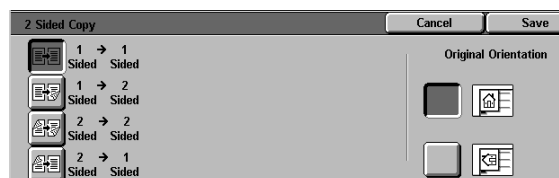

Figure 13: 2 Sided Copying options
- If you have a DADF, touch the desired option from those illustrated in Figure 13: